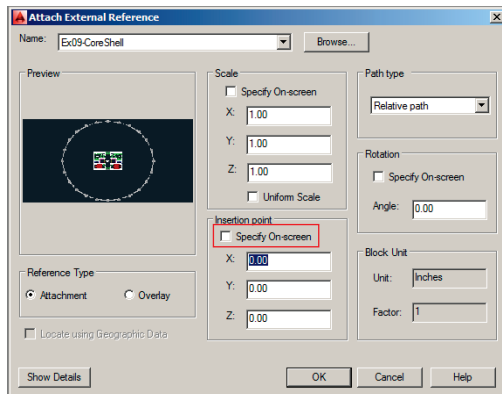

FIGURE 9.28 Attaching an external reference
4. In the Attach External Reference dialog box that appears, deselect Specify On-Screen in the Insertion Point area (see Figure 9.28). Click OK.